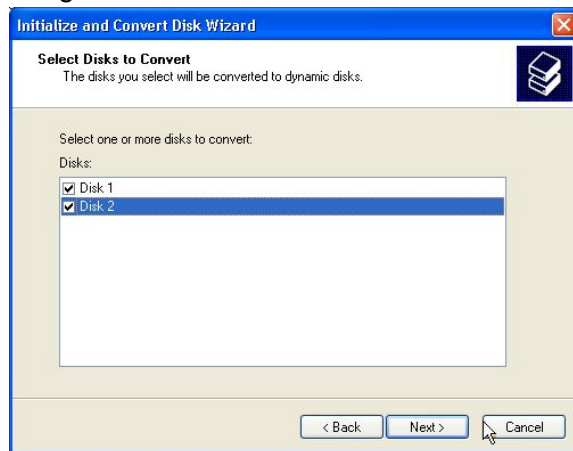

FIGURE 6-17. Initialize and Convert Disk Wizard - Select Disks to Convert Screen.
5. At the *Initialize and Convert Disk Wizard - Select Disks to Convert* screen, check the Disk 1 and Disk 2 checkboxes. Click **NEXT >**. See Figure 6-17.